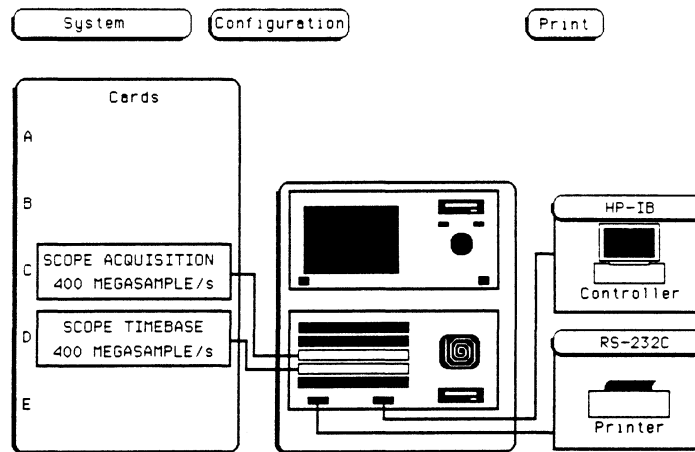

Figure 3-2. Startup Screen
- d. From the startup screen shown in figure 3-2, touch **system**, then touch **Oscilloscope**.